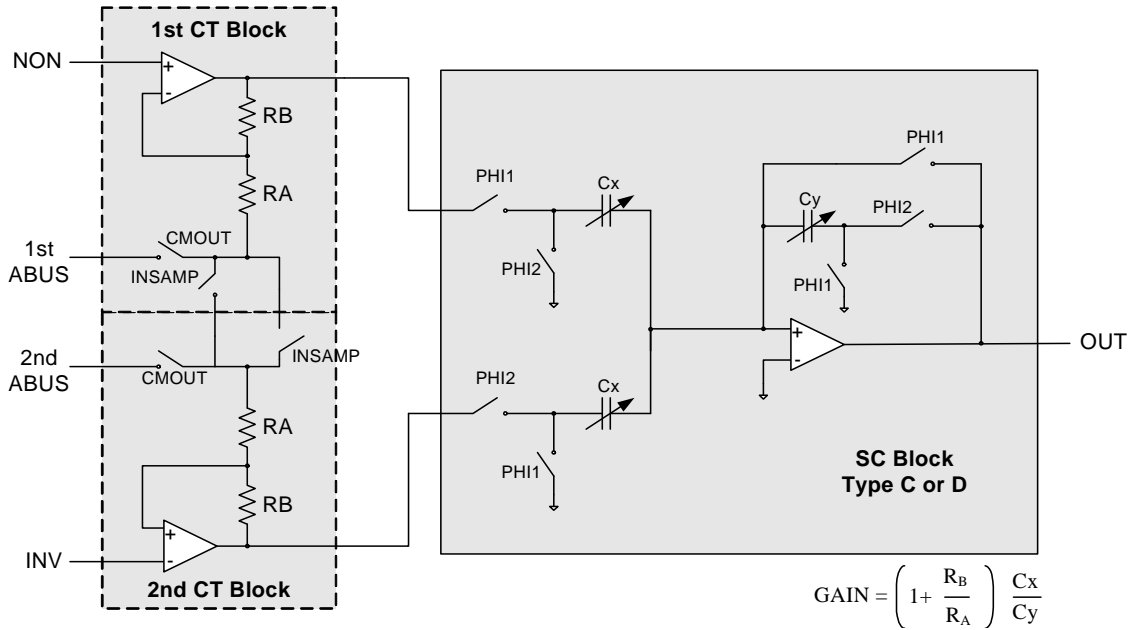

Figure 22-3. Three-Opamp Instrumentation Amplifier
Two continuous time blocks and one switched capacitor block combine to make a three-opamp instrumentation amplifier (see Figure 22-3).
**Bit 1: INSAMP.** This bit is used to connect the resistors of two continuous time blocks as part of a three-opamp instrumentation amplifier. The INSAMP bit must be high for the three-opamp instrumentation amplifier (see Figure 22-3).